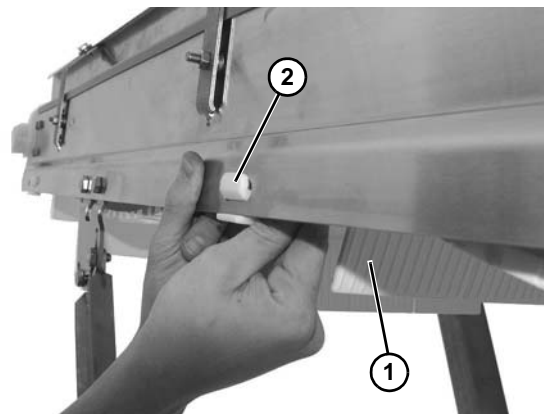

Figure 20
2. Install belt (**Figure 20, item 1**) around lower frame section and above lower wear strip (**Figure 20, item 2**).